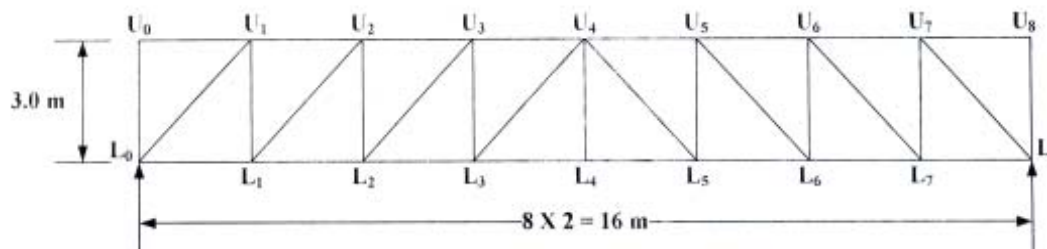

Fig. 5 (a)
5. a) The foot-over bridge shown in Fig. 5 (a) has a floor slab precast concrete blocks, 150 mm thick with unit weight of 21 kN/m^3 . The live load on the slab is 5 kN/m^2 . Design the following components of the foot-over bridge.